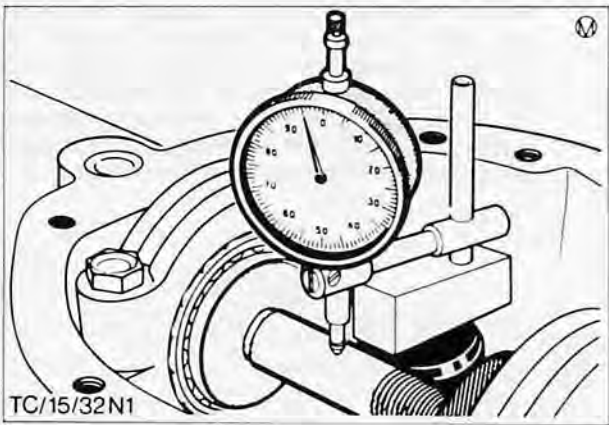

Fig. 39. Indicator reading 95 – shim under master pinion too thick
22. Place mounting block with dial indicator on the middle of the end of the master pinion and move plunger of indicator slowly across the gauge bar. Observe dial indicator and stop at the precise point where the pointer changes direction. Repeat this measuring operation several times and ensure maximum precision, Figs. 39/40.